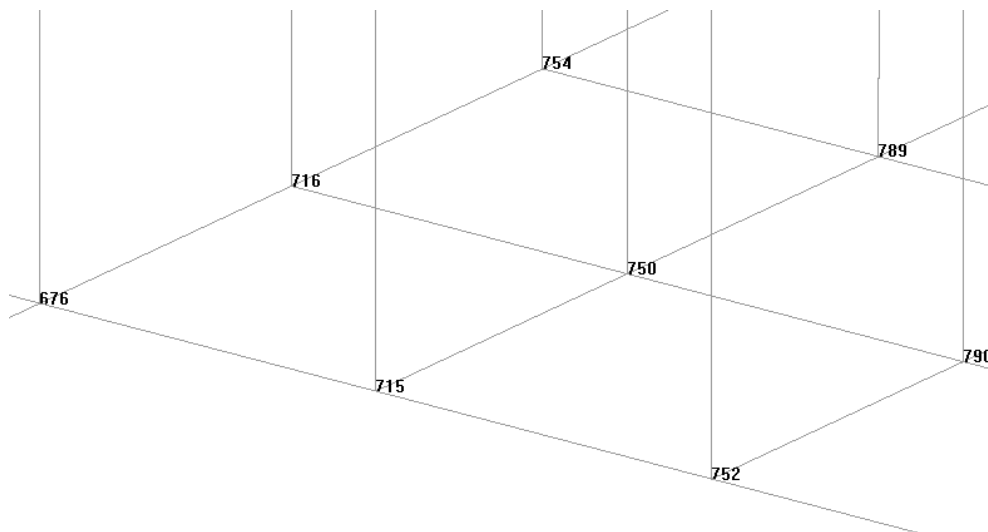

Figure 15. Each number identifies a node. There is a node for each element vertex.
- 1 . Select **Label->All in->Points** . The result is shown in Figure 15.